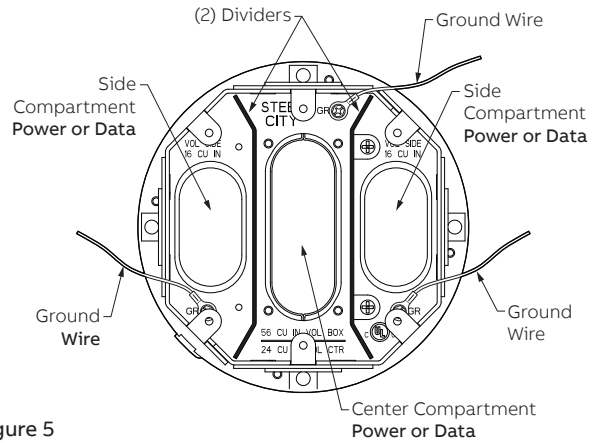

Figure 5
4.2 Select from (4) possible junction box configurations: See Figures 5, 6, 7, and 8. **NOTE:** There are (3) (12 AWG) ground wires in the Junction Box. Leave the ground wires in place. Use a (10 AWG) ground wire if 30A device is used, see Step 5.1.3.